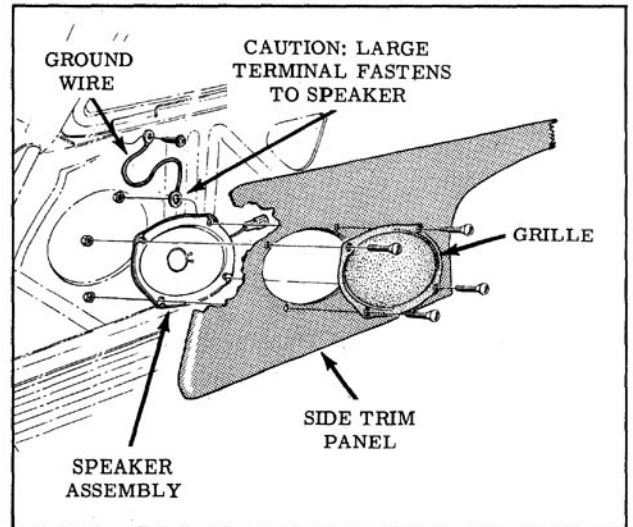

Fig. 12-24 Rear Seat Speaker (Fiestas)
3. Remove speaker assembly from the quarter panel. (Fig. 12-24)